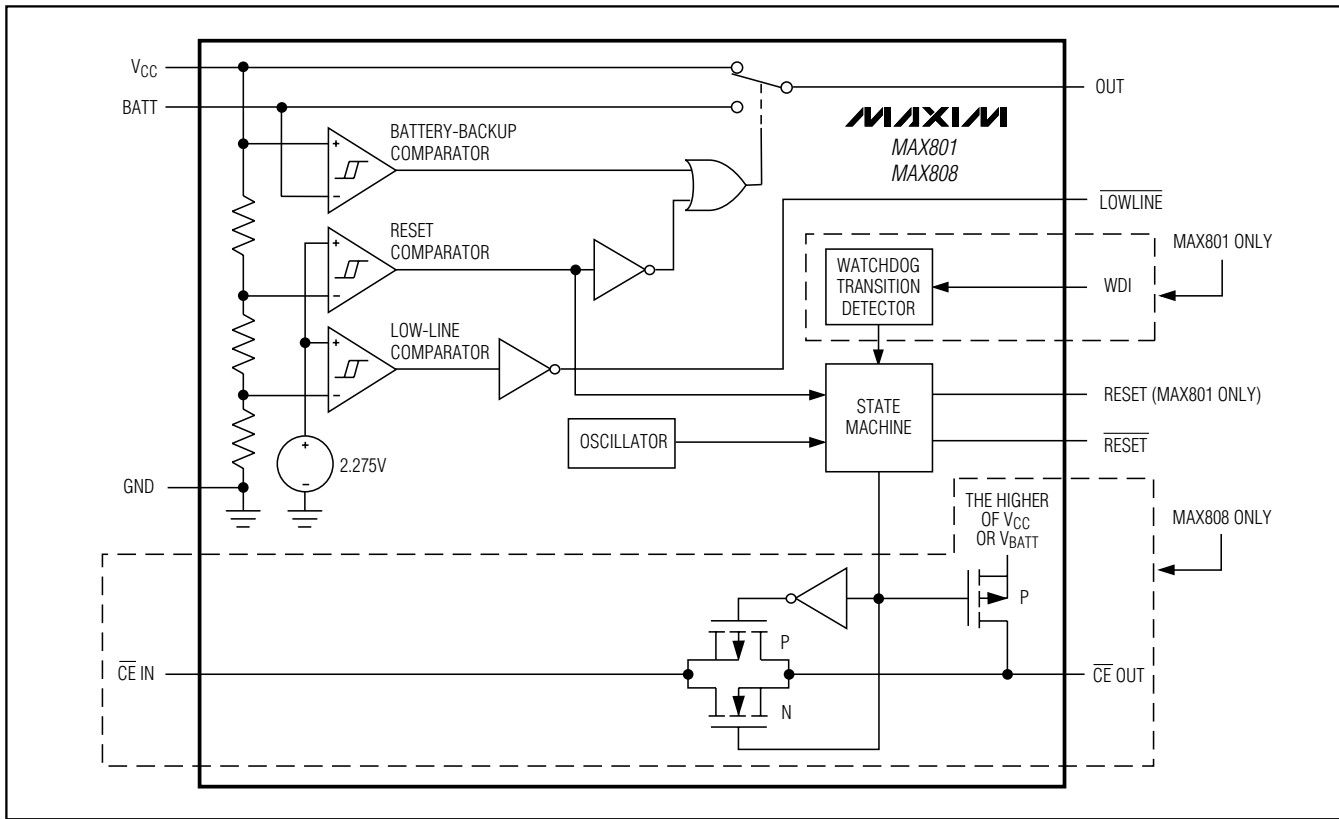

Figure 1. Functional Diagram
The MAX801/MAX808 microprocessor ( $\mu\text{P}$ ) supervisory circuits provide power-supply monitoring and backup-battery switchover in  $\mu\text{P}$  systems. The MAX801 also provides program-execution watchdog functions (Figure 1). Use of BiCMOS technology results in an improved, 1.5% reset-threshold precision while keeping supply currents typically at 68 $\mu\text{A}$  (48 $\mu\text{A}$  for the MAX808). The MAX801/MAX808 are intended for battery-powered applications that require high reset-threshold precision, allowing a wide power-supply operating range while preventing the system from operating below its specified voltage range.
The MAX808 provides internal gating of chip-enable (CE) signals to prevent erroneous data from corrupting CMOS RAM in the event of a power failure. During normal operation, the CE gate is enabled and passes all CE transitions. When reset is asserted, this path becomes disabled, preventing erroneous data from corrupting the CMOS RAM. The MAX808 uses a series transmission gate from the chip-enable input ( $\overline{\text{CE}} \text{ IN}$ ) to the chip-enable output ( $\overline{\text{CE}} \text{ OUT}$ ) (Figure 1). The 8ns max chip-enable propagation from  $\overline{\text{CE}} \text{ IN}$  to  $\overline{\text{CE}} \text{ OUT}$  enables the MAX808 to be used with most  $\mu$ Ps.